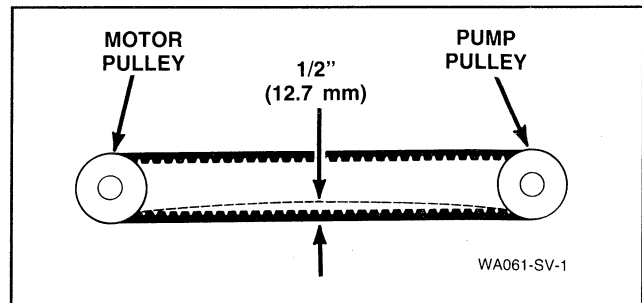

Figure 47
- Shift front of pump mounting bracket to the right or left to obtain proper belt tension. Proper tension is when belt can be deflected approximately 1/2 inch (12.7 mm) from its normal position by applying moderate pressure (1-1/2 pounds — .675 kg) to a point midway between pulleys, *Figure 47*.